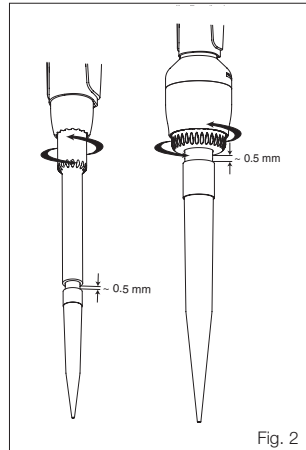

Fig. 2
2.4 Tip ejection (Figs. 2 and 3)